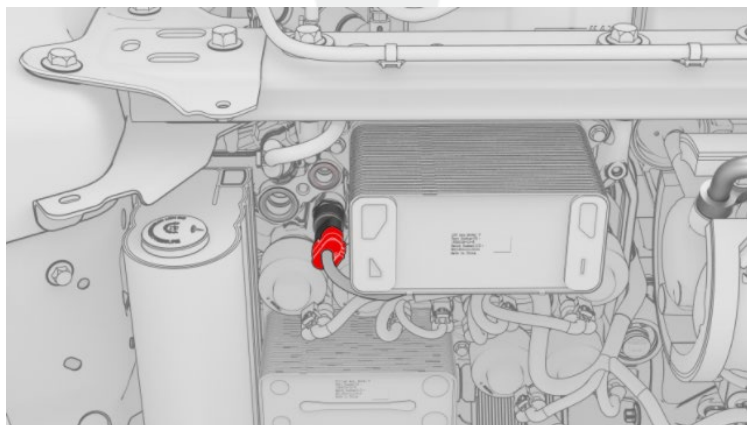
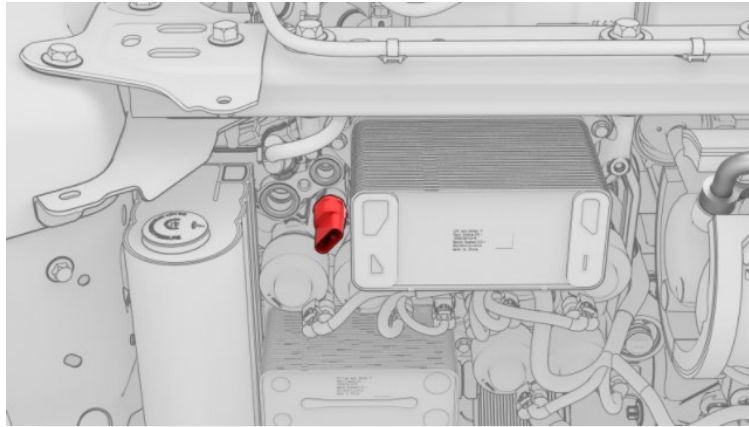

Figure 5
Figure 6
12. Release the locking tab, and then disconnect the electrical harness from the high pressure P/T sensor connector (Figure 5).
13. Use the HVAC socket kit special tool to remove the high pressure P/T sensor from the Supermanifold (Figure 6).
20. Repeat step 18.a through 18.f to install the new high pressure P/T sensor (black connector) into the Supermanifold (Figure 6) and connect the electrical harness (Figure 5).